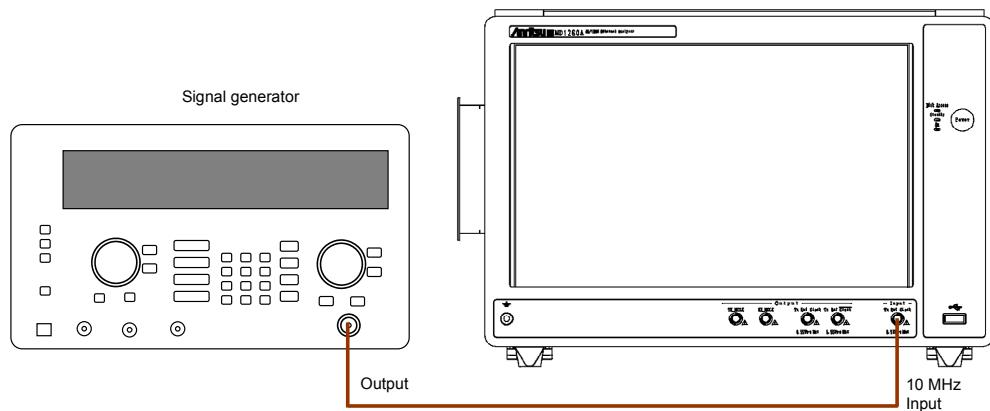

Figure 8.4-4 Measurement System for Tx Ref Clock Input Terminal
1. Connect the Tx Ref Clock Input terminal at the front panel of the MD1260A and the signal generator (Figure 8.4-4).